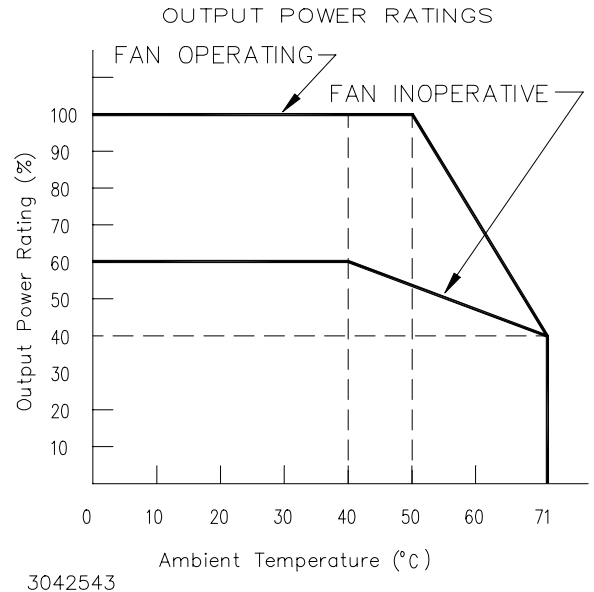
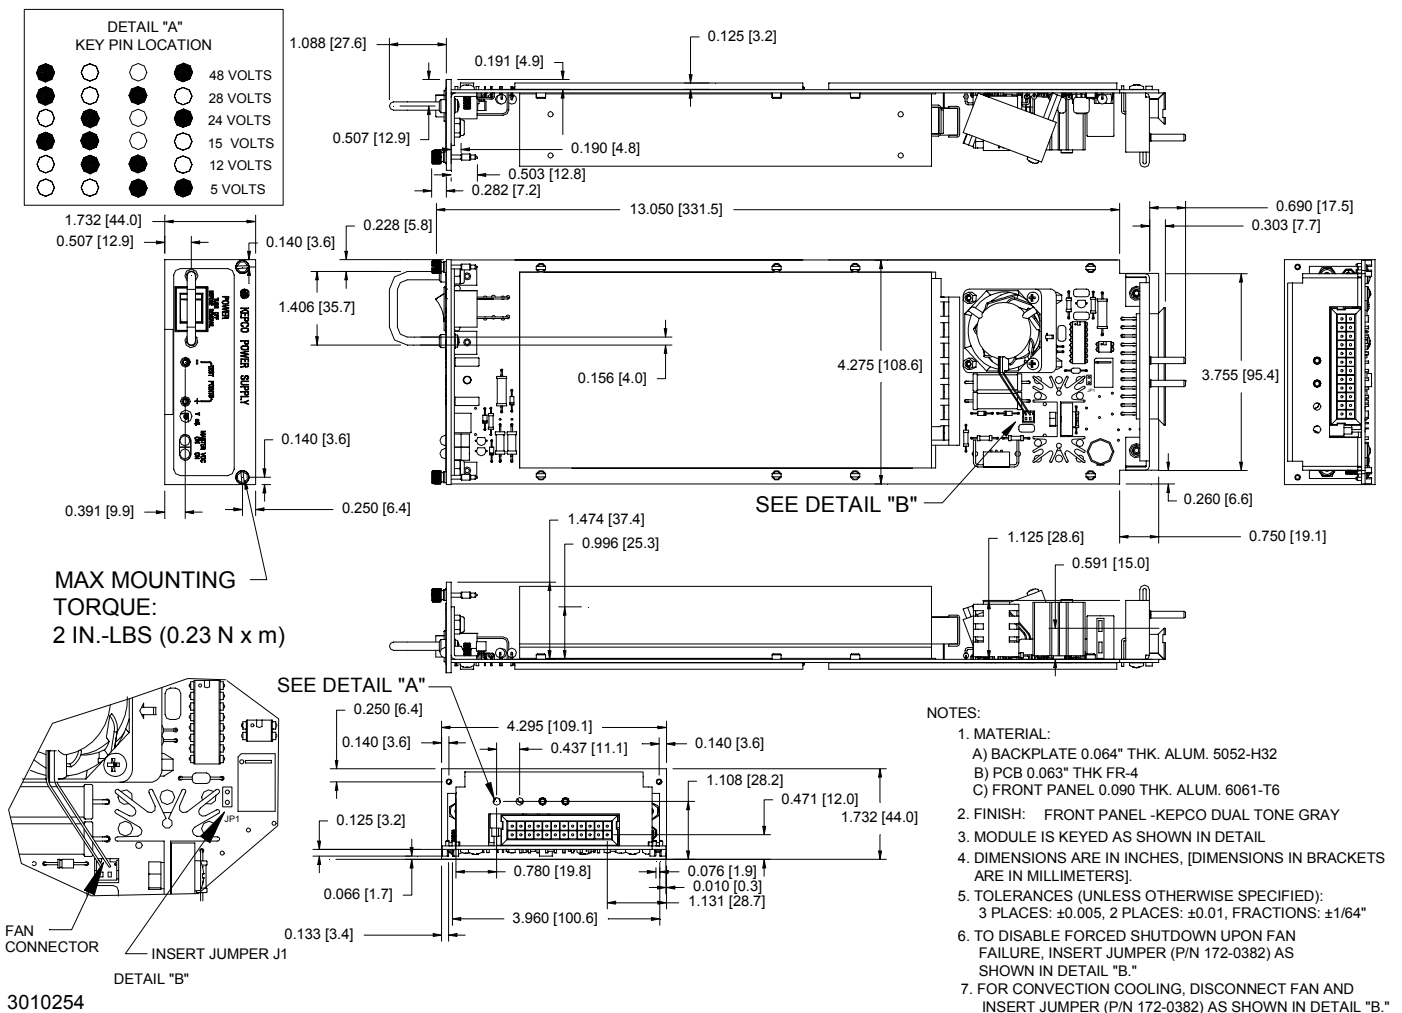

FIGURE 4. % OUTPUT POWER RATING VS. AMBIENT TEMPERATURE
FIGURE 5. HSF-1U POWER SUPPLY OUTLINE DRAWING
- (1) Derates same as Output Power.
(2) See power derating curve, Figure 4.
Forced shutdown upon fan failure can be disabled by installing a jumper, Kepco P/N 172-0382 (Digikey P/N A26231-N) as shown in Figure 5. This allows the unit to continue to operate with the fan inoperative (see Figure 4 for safe operating conditions); the alarm signals noted above will report an alarm condition, and the VDC ON indicator will either light red (fan supply voltage missing) or flicker between red and green (mechanical failure). With the jumper installed the user is responsible for either reducing the load to within the specifications given in Figure 4, or shutting down the unit using the alarm signals provided.
COOLING: Forced convection, ball-bearing fans, life expectancy 50,000+ hours. Natural convection can be used if the load does not exceed 60% of max. (see Figure 4). Simply disconnect the fan and install jumper J1 (see Figure 5); the alarm signals described above are disabled and VDC ON lights red; overvoltage and open sense line conditions still force unit shutdown. Contact Kepco's Applications Engineering for full-featured natural convection cooled units.
OPERATING TEMPERATURE: See Figure 4.
DIMENSIONS: See Figure 5.